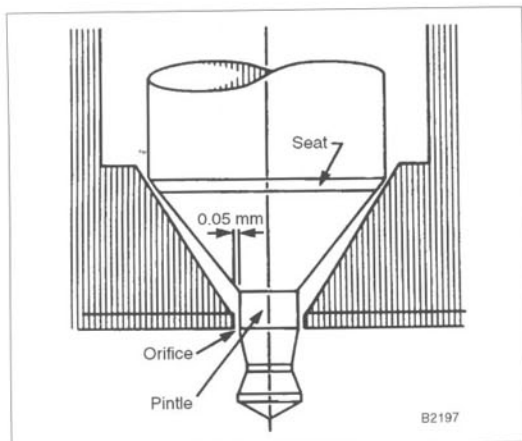

Fig. 2-2. Valve seats on conical body. Pintle has very small precise clearances to body. Pintle tip shape atomizes and distributes fuel.
- Needle valve with pintle (See Fig. 2-2)